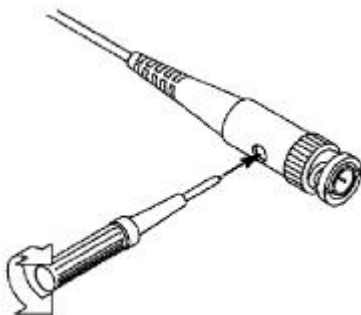

Figure 3-7 Adjust Probe
2.Check the displayed waveforms and regulate the probe till a correct compensation is achieved (see *Figure 3-6* and *Figure 3-7*).